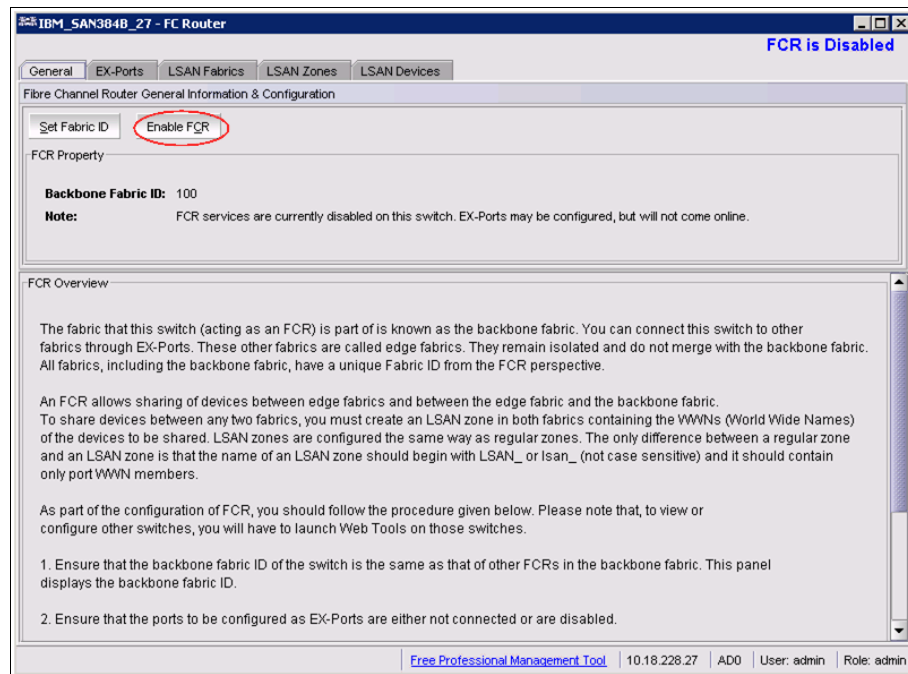

Figure 9-5 Enabling FCR
3. Enable FCR by clicking **Enable FCR**, as shown in Figure 9-5.